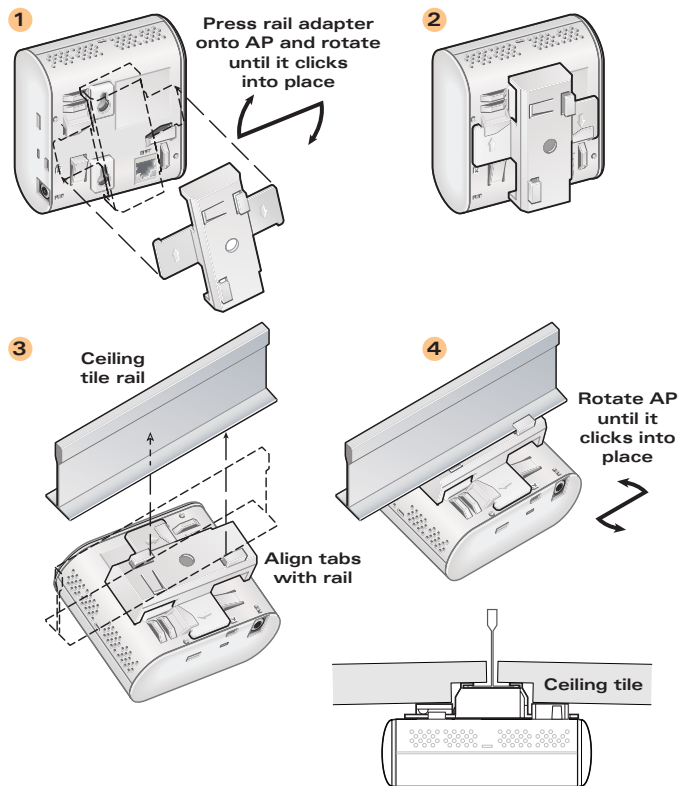

FIGURE 3 Installing AP Using the Ceiling Tile Rail Adapter
1. Align the ceiling tile rail adapter at approximately a 30 degree angle to the slot guides on the rear of the AP (see Figure 3).
2. Twist the ceiling tile rail adapter clockwise until the adapter clicks into place on the AP (see Figure 3).
4. Pushing toward the ceiling tile, twist the AP clockwise until the device clicks into place on the ceiling tile rail (see Figure 3).